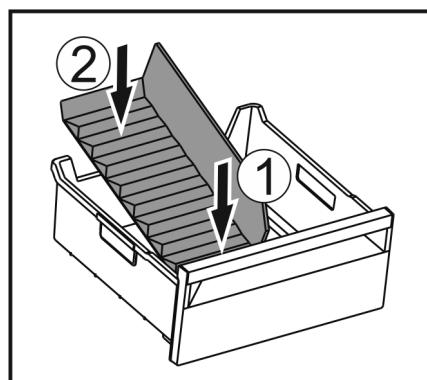

Fig. 158
- ▶ Insert the front part of the ice compartment divider. *Fig. 158 (1)*
- ▶ Lower the rear part of the ice compartment divider to the drawer bottom. *Fig. 158 (2)*